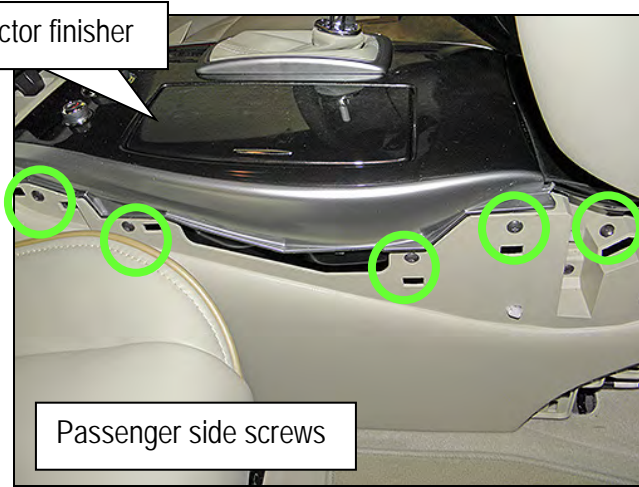

Figure 21B
- Five on Passenger side (Figure 21B).